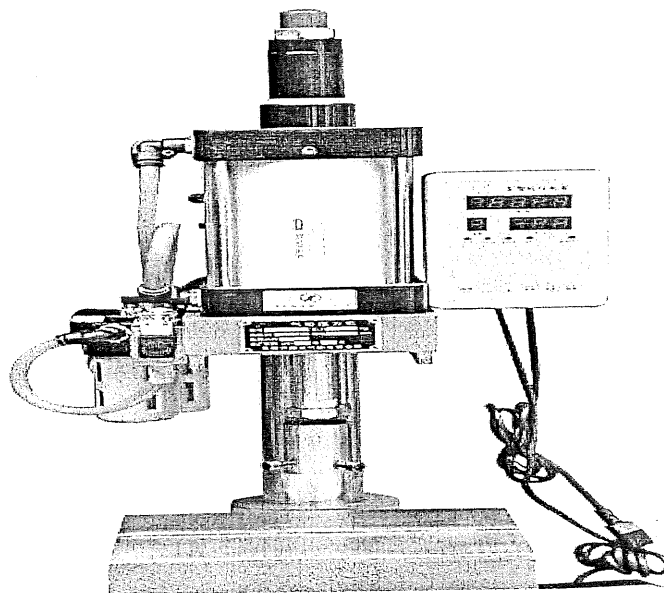

Figure 2
- c) Figure 2 shows the piston rod of a double acting cylinder 1 is to extend, when three of normally open pushbuttons (**PB1 AND PB2 AND PB3**) are actuated and will only retract when the fully extend position of a double acting cylinder is reached, which detected by a normally open Roller Limit switch (RLSW1) **AND**, after **20 seconds** extension of fully extension of cylinder.